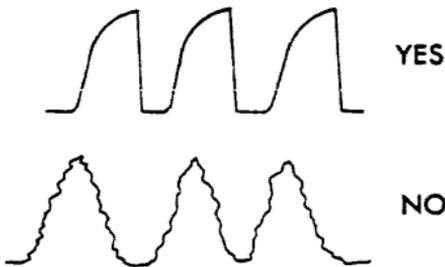

FIGURE 17
- Observe the wave form at TP15. It should appear as in Figure 17.
- If necessary, adjust R18 on the Data C9 Board until the waveform appears as in Figure 17.